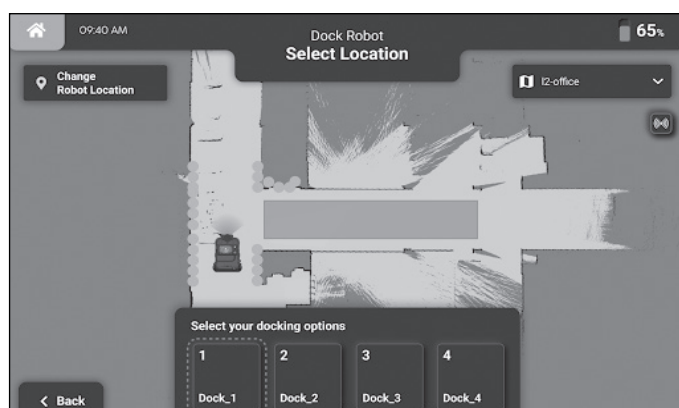

Figure 62
1. Select the docking station for the machine to dock to (Fig. 62).